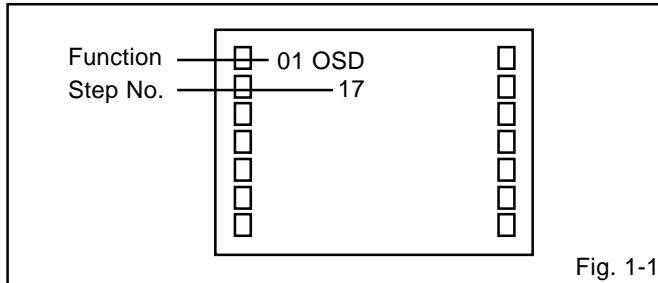

Fig. 1-1
2. Press the VOL. DOWN button on the set and the Channel button **(9)** on the remote control for more than 2 seconds to appear the adjustment mode on the screen as shown in **Fig. 1-1**.
5. Activate the adjustment mode display of **Fig. 1-1** and press the channel button **(02)** on the remote control to select "CUT OFF".
4. Activate the adjustment mode display of **Fig. 1-1** and press the channel button **(07)** on the remote control to select "R DRIVE".
3. Activate the adjustment mode display of **Fig. 1-1** and press the channel button **(04)** on the remote control to select "HPHA".
3. Activate the adjustment mode display of **Fig. 1-1** and press the channel button **(06)** on the remote control to select "VSHI".
3. Activate the adjustment mode display of **Fig. 1-1** and press the channel button **(05)** on the remote control to select "VSIZ".
3. Activate the adjustment mode display of **Fig. 1-1** and press the channel button **(12)** on the remote control to select "BRTC".
8. Activate the adjustment mode display of **Fig. 1-1** and press the channel button **(23)** on the remote control to select "BRTCA".
11. Activate the adjustment mode display of **Fig. 1-1** and press the channel button **(34)** on the remote control to select "BRTCD".
14. Activate the adjustment mode display of **Fig. 1-1** and press the channel button **(45)** on the remote control to select "BRTCG".
1. Activate the adjustment mode display of **Fig. 1-1**.